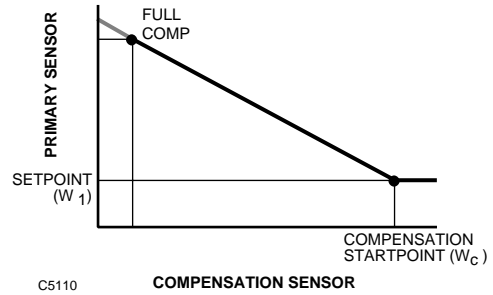

Fig. 9. Negative compensation calibration reset schedule.
Adjust the compensation startpoint (W_c), according to the job drawings (reset schedule), using the compensation startpoint adjustment knob (see Fig. 2). For direct-acting sensors, the knob setting is equal to the compensation value corresponding to the lowest value given for the primary sensor (from the reset schedule). See Fig. 9 and 10. If the value given is not a percentage, convert it to a percentage of the compensation sensor range using Table 3 (see Appendix):
5. Adjust the compensation startpoint knob until the receiver gage (port 5) reads the pressure equivalent of the compensation startpoint (W_c) (Fig. 9 or 10).
9. Apply a pressure equivalent of the primary sensor value corresponding to the compensation start (*comp start*) on the reset schedule (Fig. 9 or 10).